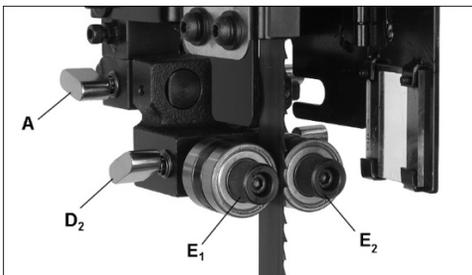
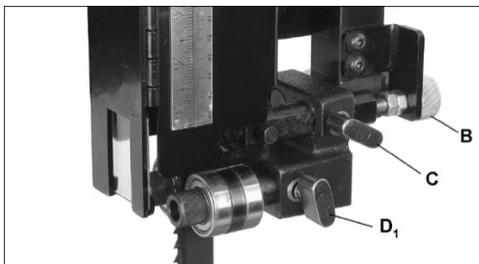

Figure 27: upper blade guide adjustment
Figure 28: upper blade guide adjustment
Refer to Figures 27 through 30.
4. Loosen locking screw (A, Figure 27). Make sure knob (C, Figure 28) is tightened.
Refer to Figures 27 and 30.